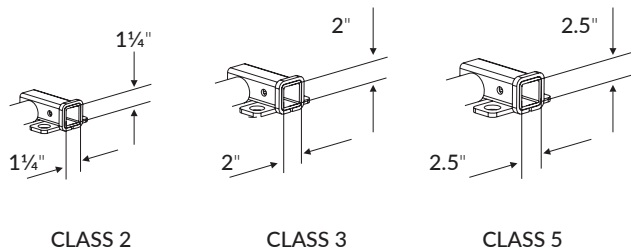

Figure 3-2
**NOTE:** The hitch class is usually imprinted directly on the trailer hitch. You can also determine the hitch class by measuring the inside of the receiver on the trailer hitch. *See Figure 3-2.*